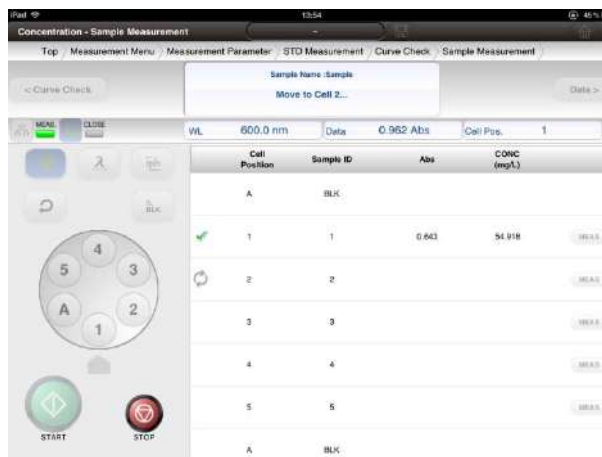

Fig. 4-20 Window Showing Ongoing Sample Measurement
- (3) During measurement, the window showing ongoing sample measurement (Fig. 4-20) will be shown.